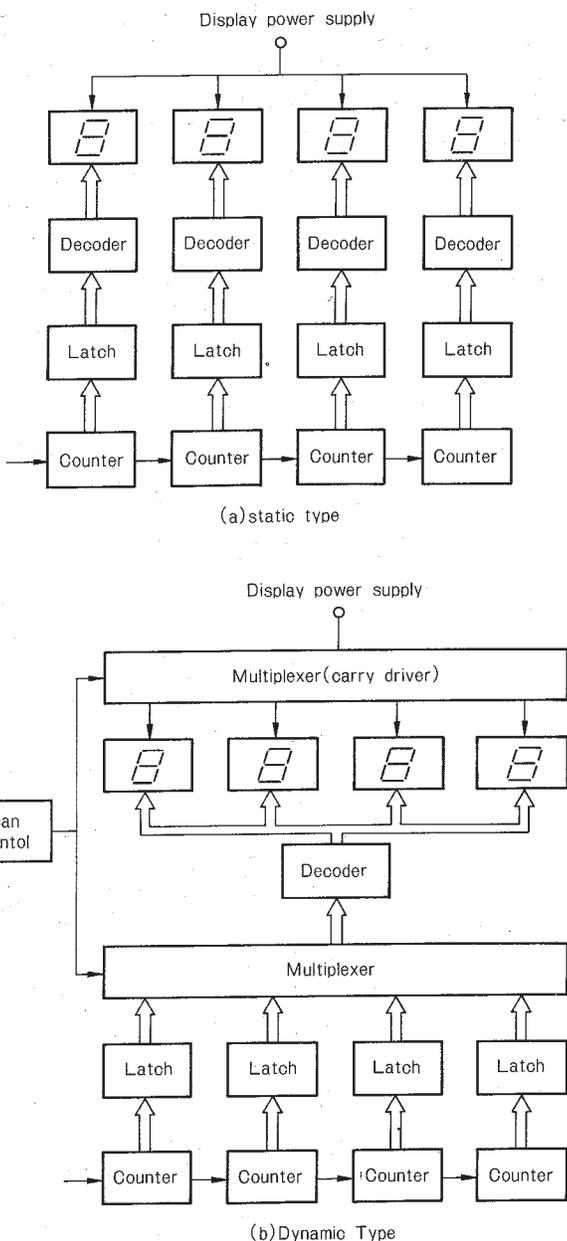

Fig. 17 Static Display and Dynamic Display
The output from the latch circuit can be displayed for the respective digits when it is delivered to the display through the decoder. This is a static type display circuit, with a block diagram as shown in Fig. 17 (a). Theoretically this type of circuit is very reliable since counters, latches, decoders, and display circuits are independent of each other for each digital unit. However, as the number of digits to be displayed increases, very precious decoder IC's must be installed in a quantity which is equal to the number of digits. In addition, since the display section is generally independent of the main printed circuit board, the connections and wiring will be very complex. These are disadvantages of the static type display.
On the other hand there is another type of display, the dynamic display circuit, which is adopted for the DG-5. In this case only one decoder is used. The latches and the display units for the respective digits are controlled through the multiplexer and the counted result is displayed by the time division system. In the circuit shown in Fig. 17 (B), outputs from the respective latches are gathered in the multiplexer. When a scanning control signal is applied to the multiplexer, components of the respective digits are processed by time division switching and sent to the decoder. The multiplexer on the display side is synchro-